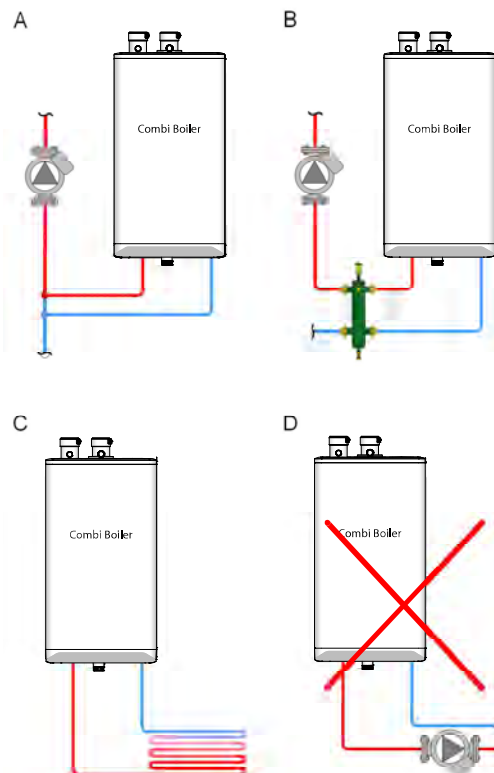

Figure 31: Permitted and prohibited space heating combi boiler piping
Figure 31 illustrates that the integral space heating pump can be hydraulically separated from the distribution pump by (A) closely-spaced tees, or by (B) a low-loss header. Although best practice is primary/secondary, in some cases (C) the integral pump will be adequate to provide flow through the building heat emitters. The installer / designer must ensure that if the integral pump is used for the space-heating emitters it is powerful enough for system distribution. Avoid (D) where an external pump is placed in series with the integral pump because the external pump runs when the Combi boiler is serving DHW. It will strongly compromise DHW response.